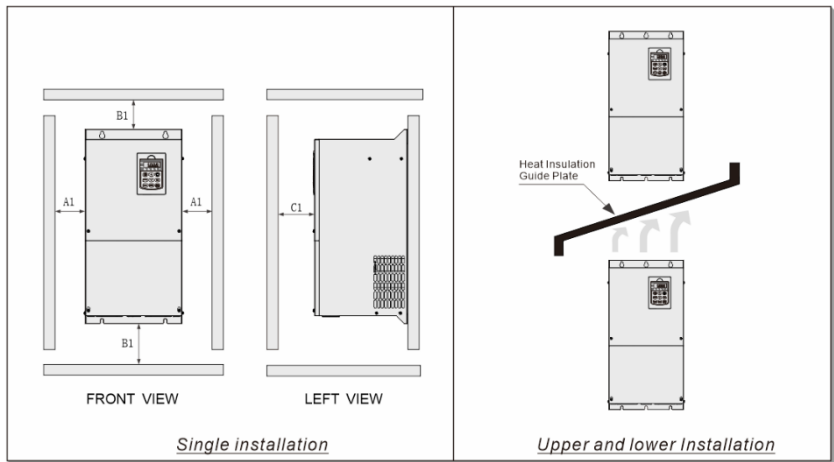

Figure 3-1 Installation Diagram
- 1) In order to easy to dissipate the thermal, please install the inverter vertically, but cannot be inverted. If there are several inverters in the cabinet, the best method is to install side by side. When two Variable Speed Drives are installed one on top the other, the heat insulation guide plate should be installed between as shown in Figure. 3-1.
2) The requirements on installation space are shown in Figure 3-1 which should ensure the heat dissipation space of the inverter. Layout should ensure the heat dissipation condition of other components in the cabinet.